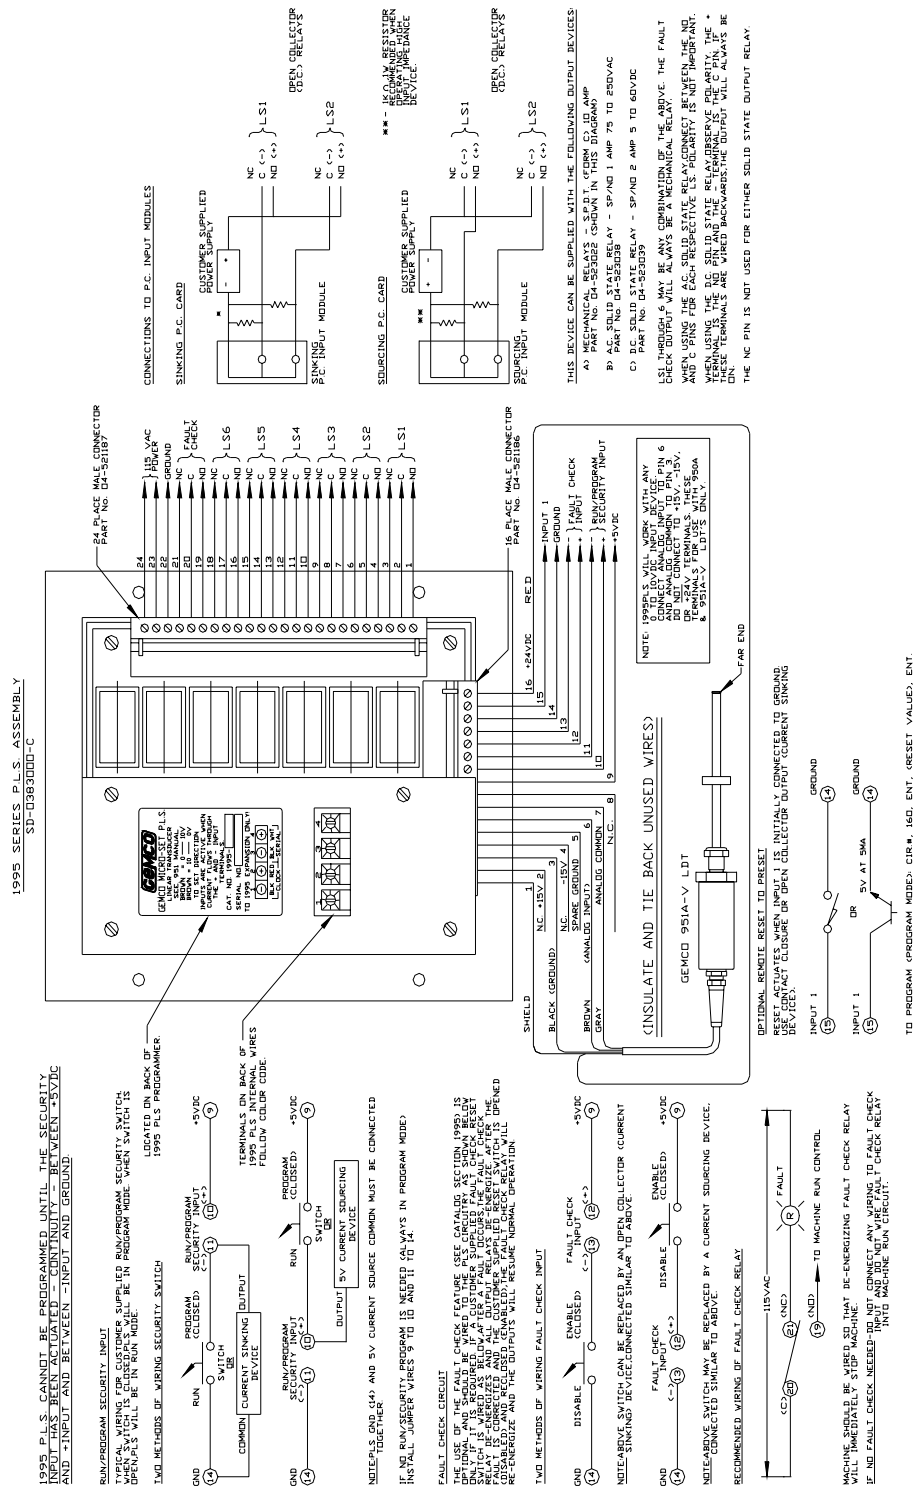
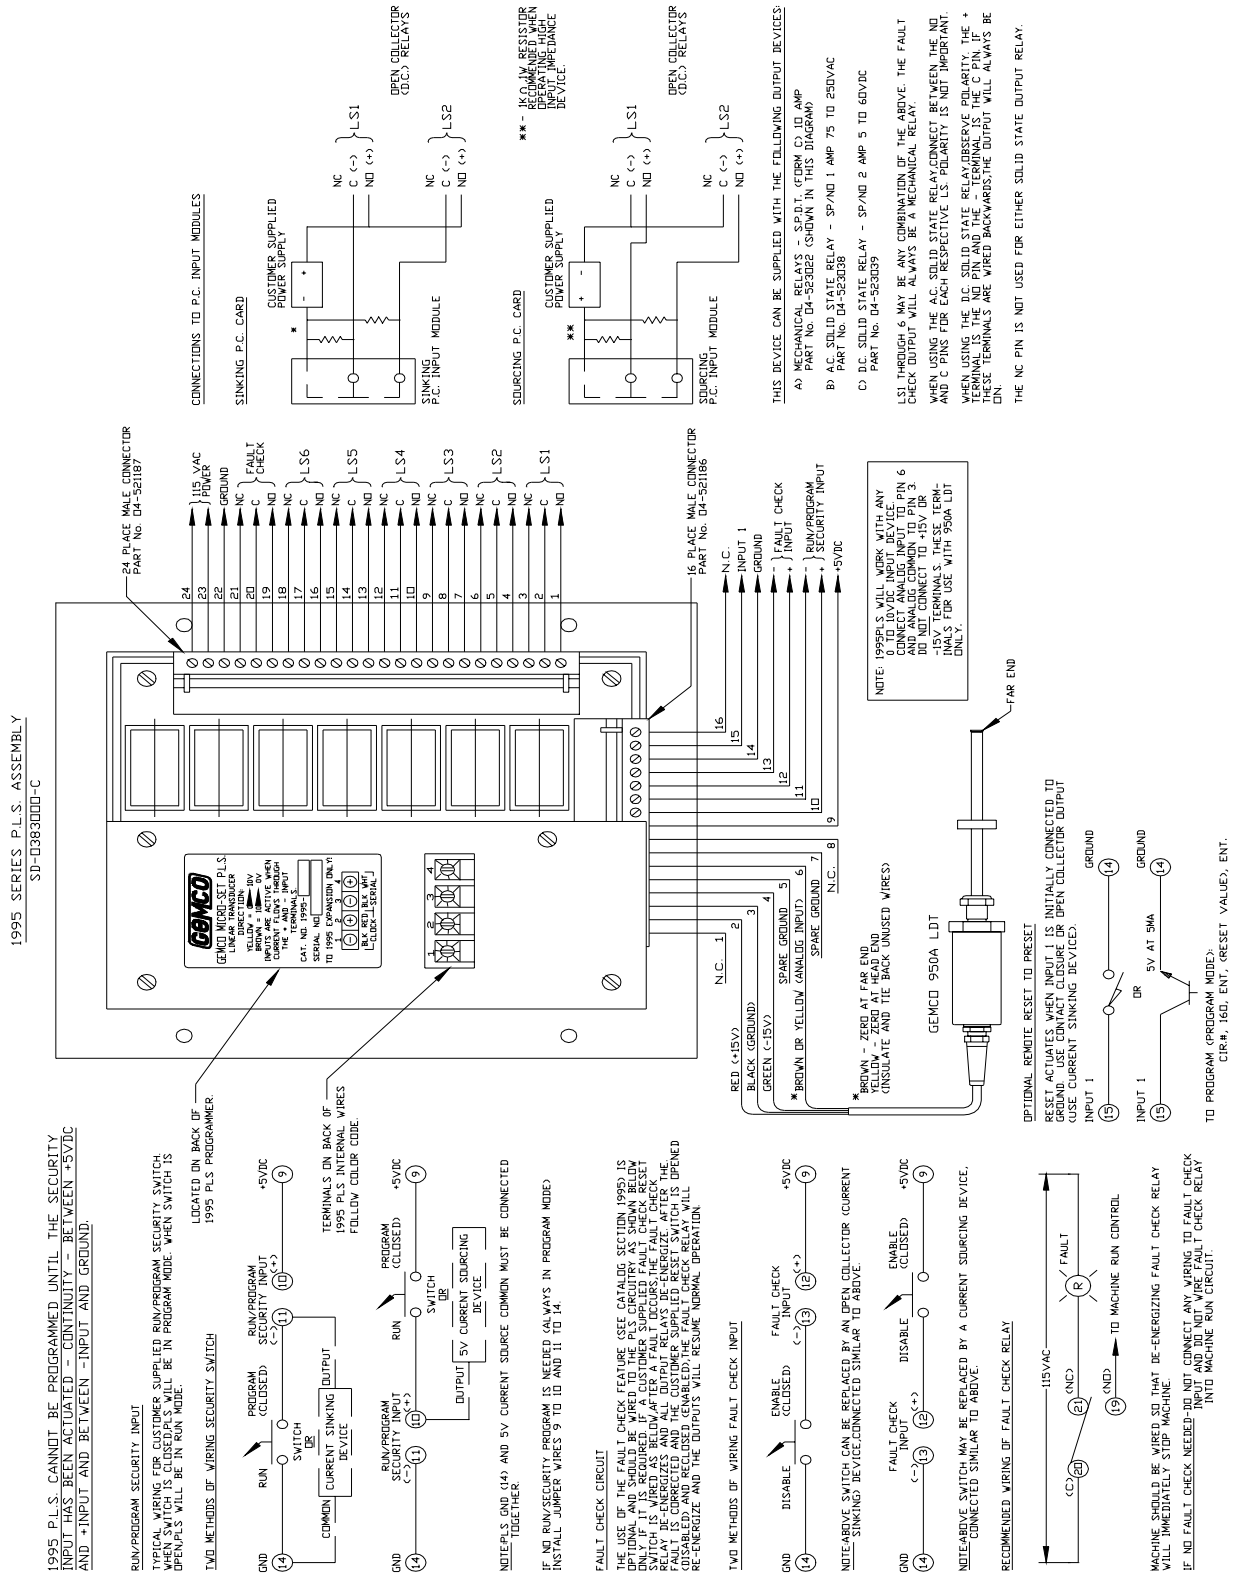
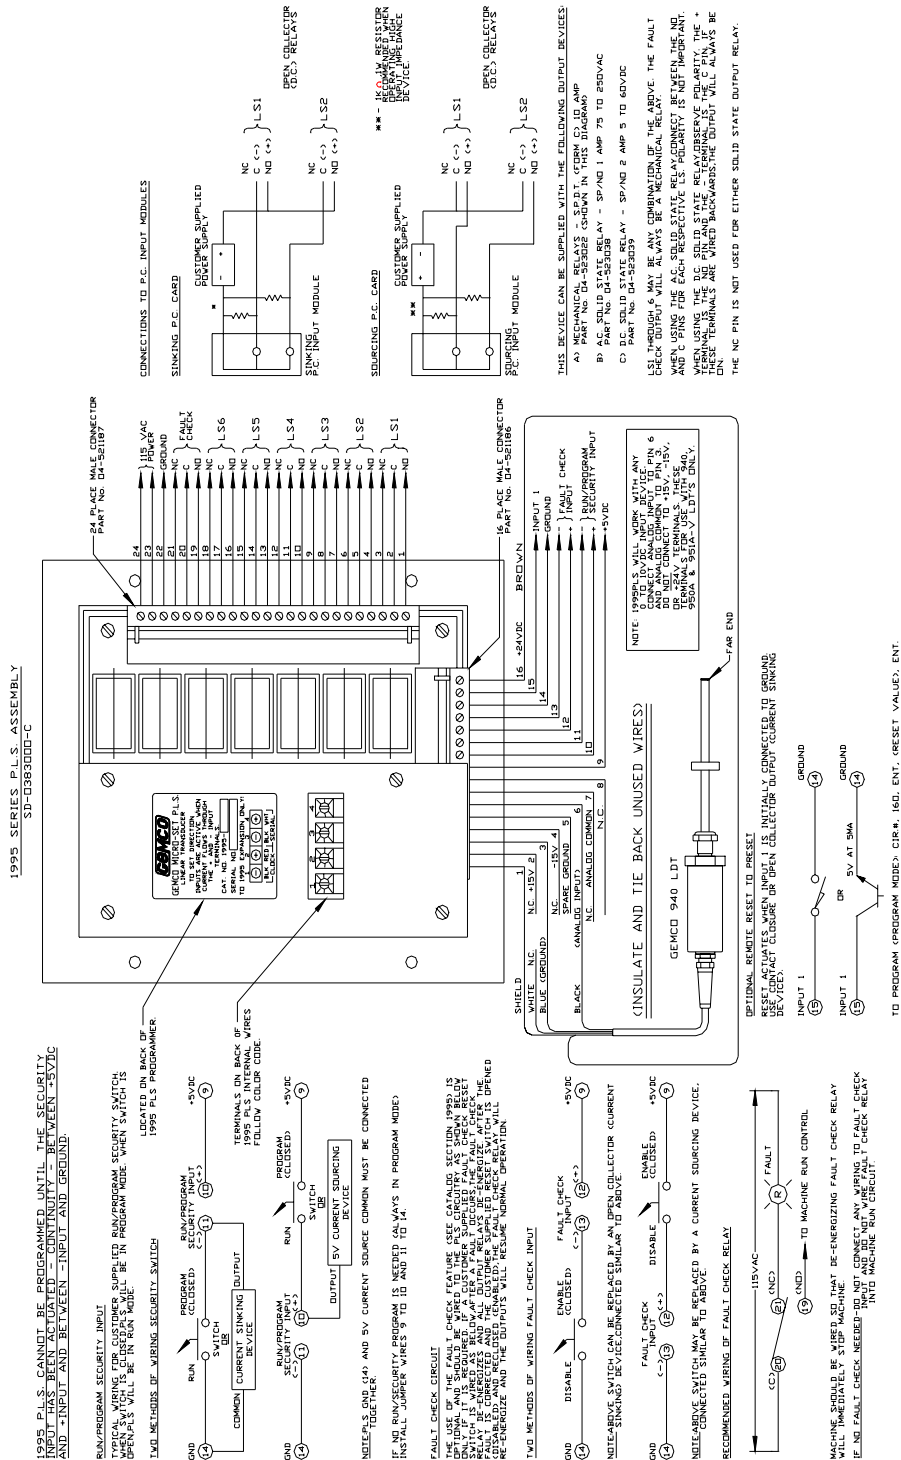

Fig 10-1 Wiring Diagram
Fig 10-2 Wiring Diagram
Fig 10-3 Wiring Diagram
**NOTE:** If the Fault Check inputs are not wired, the display will still show when there is a fault and the outputs will be disabled, but it will not lock on the fault. However, if the fault check inputs are wired up per Fig. 10-1, Fig. 10-2 or Fig. 10-3 (Chapter 10: Wiring Diagrams), upon seeing a fault, the fault check relay will drop out and all outputs will shut off until the fault is fixed and the fault check input is reset.
The Run/Program security inputs may be operated by an isolated contact, current sourcing, or a current sinking device, 5V DC @ 10mA. See Fig. 10-1, Fig. 10-2 OR Fig. 10-3 (Chapter 10: Wiring Diagrams) for wiring options.
Special purpose contact inputs all operate by connecting the input pin on the **1995L PLS** to a power or GND terminal (depending on method wired per Fig. 10-1, Fig. 10-2, Fig. 10-3 (Chapter 10: Wiring Diagrams) on the **1995 PLS** through a remote contact or solid-state switch. These computer level signals must be protected from induced electrical noise.
Fault check relay not enabled.	<p>The fault check relay will only be enabled when the fault check input is wired per Fig. 10-1, Fig. 10-2 OR Fig. 10-3 (Chapter 10: Wiring Diagrams). If a fault is detected without the input wired, the display will show the fault message and all outputs will be disabled until the fault is fixed.</p> <p>If the fault check input is wired per Fig. 10-1, Fig. 10-2 OR Fig. 10-3 (Chapter 10: Wiring Diagrams) and a fault is detected, the display will show an ERROR MESSAGE. All outputs will be disabled and the fault check OK relay will drop out and will remain dropped out until the fault is fixed and the fault check input is reset. See Chapter 5: Fault Check for details.</p>
Unit will momentarily display a fault error message.	<p>The system is detecting a momentary fault, but will not lock on it because the fault check input is not wired per Fig. 10-1, Fig. 10-2, Fig. 10-3 (Chapter 10: Wiring Diagrams). See Chapter 5: Fault Check for details.</p>